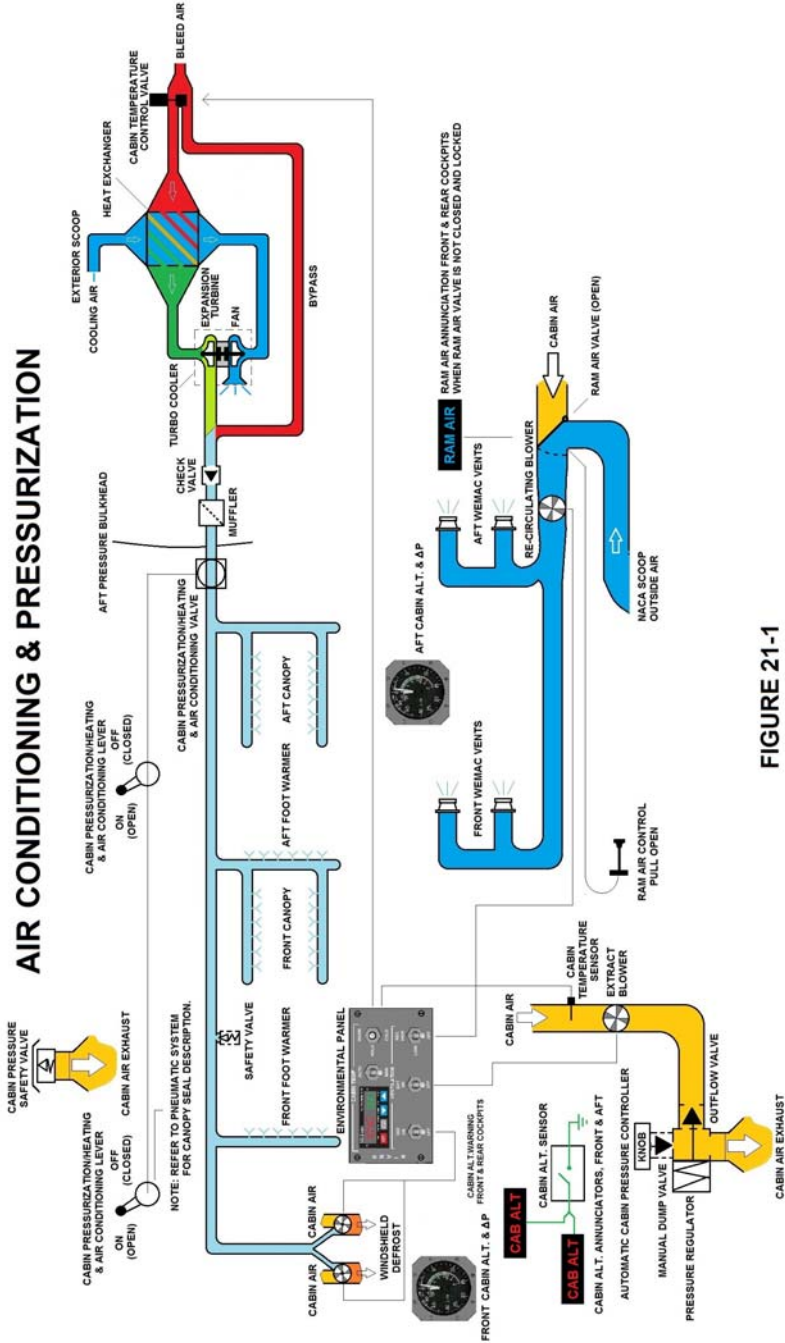

FIGURE 21-1
When the Cabin Pressurization Valve is turned on bleed air, from the engine compressor, flows through the Cabin Temperature Control Valve. The valve is controlled automatically by the digital Cabin Temperature Controller or manually using the Warm/Cold switch. It portions the flow of bleed air through the heat exchanger & expansion turbine or the bypass to achieve the desired cabin temperature. The air then passes through a check valve and a muffler to the Cabin Pressurization Valve. The air is distributed through the cockpits via ducting to the canopies, foot warmers and the windshield (Figure 21-1).
### AUTOMATIC CABIN PRESSURE CONTROLLER (FIGURES 21-1 THRU 21-3)
**CABIN PRESSURE SAFETY VALVE (FIGURE 21-1)**
**CABIN TEMPERATURE CONTROL VALVE (FIGURE 21-1)**
### **CABIN TEMPERATURE SENSOR (FIGURE 21-1)**
### **CANOPY AIR (FIGURE 21-1)**
### **CHECK VALVE (FIGURE 21-1)**
### **EXTRACT BLOWER (FIGURE 21-1)**
### **FOOT WARMERS (FIGURE 21-1)**
### **HEAT EXCHANGER (FIGURE 21-1)**
### **MUFFLER (FIGURE 21-1)**
### **RE-CIRCULATING BLOWER (FIGURE 21-1)**
## **RAM AIR VALVE (FIGURE 21-1)**
## **SAFETY VALVE (Heating) (FIGURE 21-1)**
## **TURBO COOLER (FIGURE 21-1)**
## **WINDSHIELD DEFROST (FIGURE 21-1)**